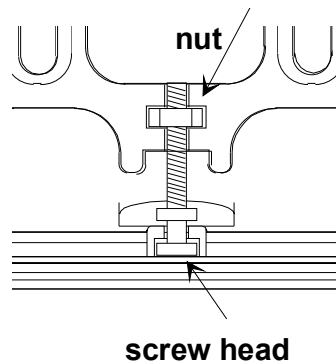

Figure 9. Mounting the Terminal Closure Guide (1)
2. Insert the nut and the special screw into the corresponding niche on the guide (see Figure 9).